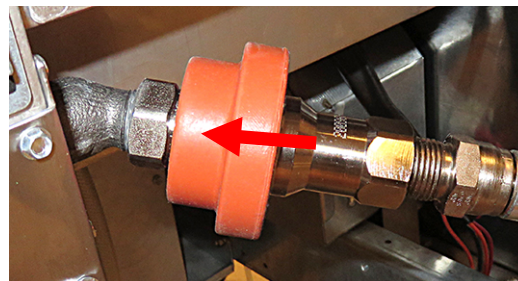

Figure 24
23). Then press the orange sleeve towards the rear of the fryer to lock into place (see Figure 24).